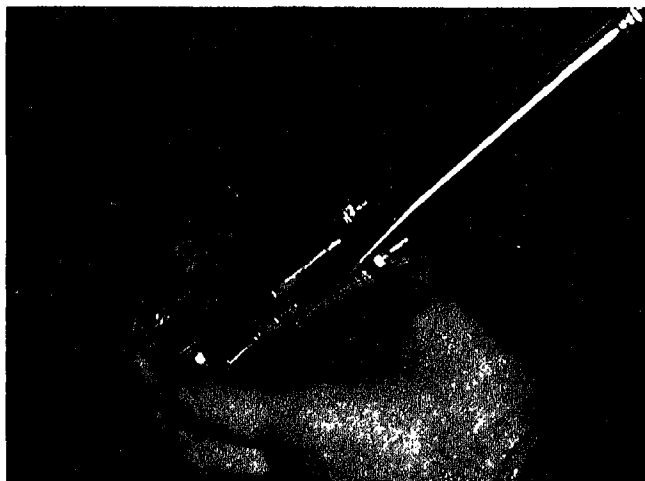

Fig. 505-1 Removing screw from shutdown valve
1. Remove screws and lockwashers securing coil housing to valve housing. Fig. 505-1.